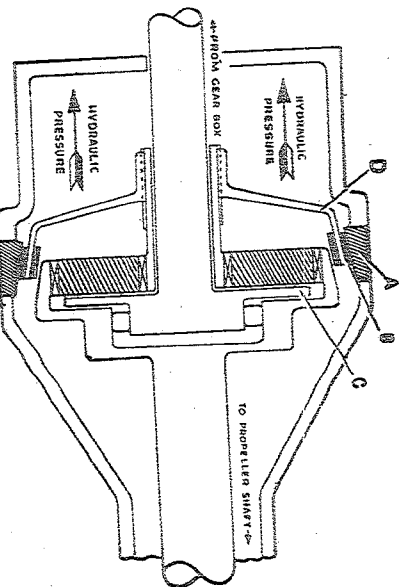

Fig. 3. Overdrive in operation
When overdrive is engaged (Fig. 3) a valve in the unit is opened, applying hydraulic pressure from the pressure accumulator to two pistons which work in cylinders formed in the unit housing. These pistons exert pressure against the cone clutch member, overcoming the spring pressure and pushing the cone clutch (D) away from the annulus until the outer lining (B) presses against a conical brake ring (A) built into the main casing.